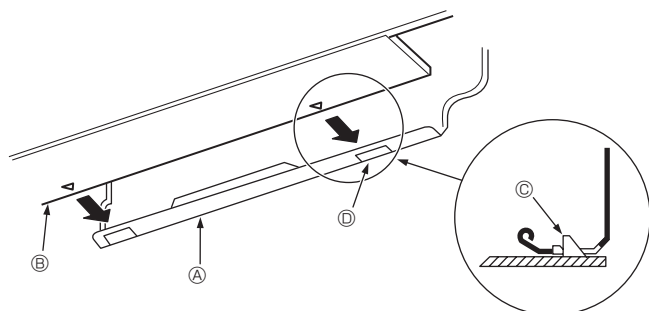

Fig. 3-11
3. While inserting the refrigerant piping and drain hose into the wall penetration hole (penetration sleeve), hang the top of the indoor unit to the mount board ①.
5. Fasten by pushing the bottom part of the indoor unit onto the mount board ①. (Fig. 3-11)